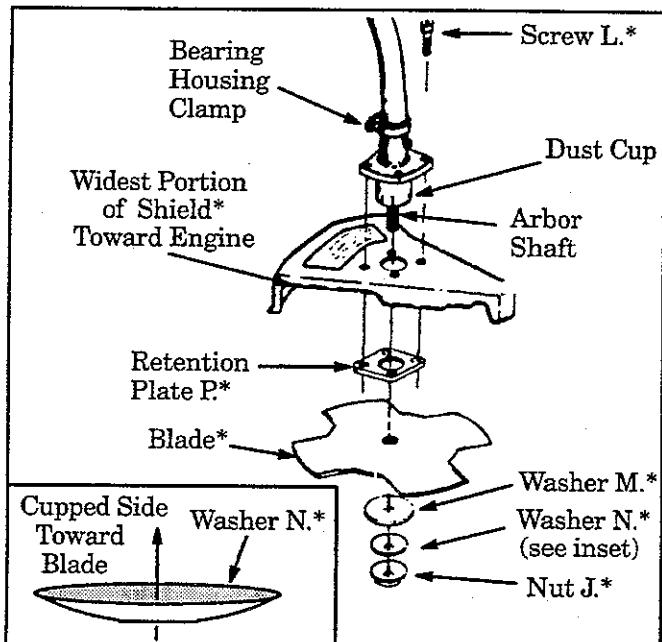

Figure 6
Failure to install the shield in the position shown in Figures 6 and 9 can result in serious injury to the operator. The length of the shield must be aligned with the length of the tube.
2. Hold retention plate "P." in position and place the metal shield under the bearing housing. Align screw holes. Figure 6.
3. Insert the four metal shield screws "L." (one at a time) through the bearing housing, shield, and retention plate "P.". Figure 6.
6. Install blade over arbor shaft, making sure the hole in the center of blade is fitted around the raised center step on the dust cup. Figure 6.
7. Install the large flat washer "M.", cupped washer "N.", and hex flange nut "J." as shown in Figure 6. Be sure cupped washer "N." is installed as shown in Figure 6 (inset).
8. Align the hole in the dust cup with the hole in the side of the bearing housing by turning the dust cup. Figure 6.